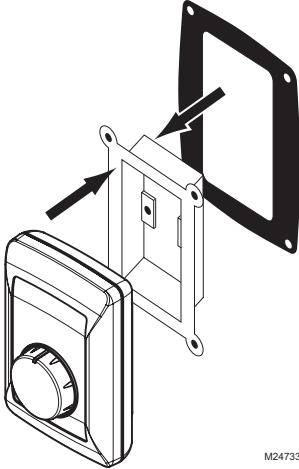

Fig. 8. Seal base bracket.
4. Remove the base bracket from the humidistat. For duct mount, slide the black gasket onto the base bracket. See Fig. 8.